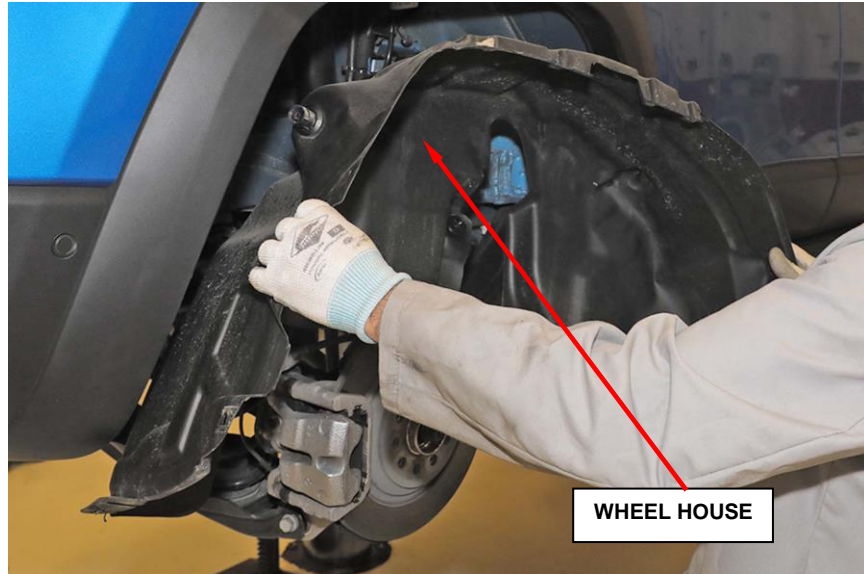

Figure 8 – Rear Wheel House
2. Remove the rear wheel house fasteners and wheelhouses (Figure 8).
26. Install the wheelhouse splash shield screws and a new rivet on both sides of the fascia (Figures 8 and 10).